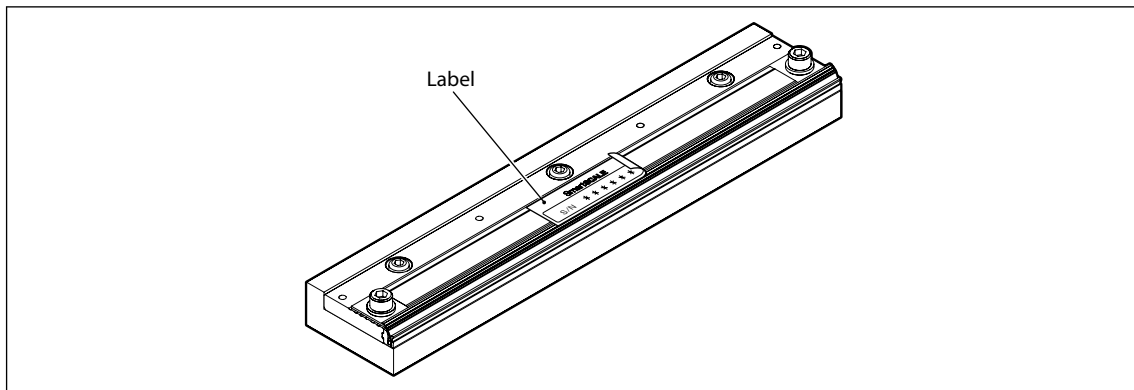

Fig. 3-7
3. Remove the label. (See Fig. 3-7.)